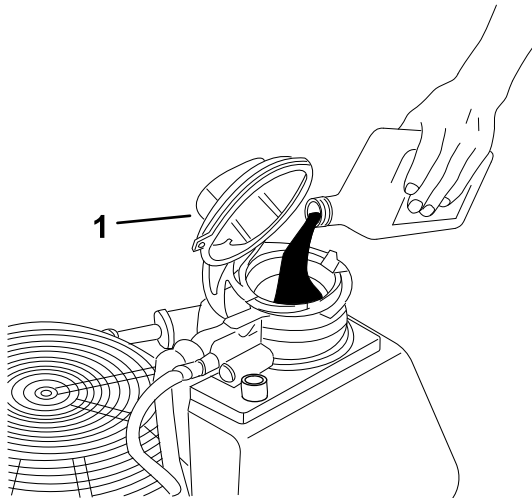

Figure 39
7. If the oil level is low, open the oil-fill cap (Figure 39).